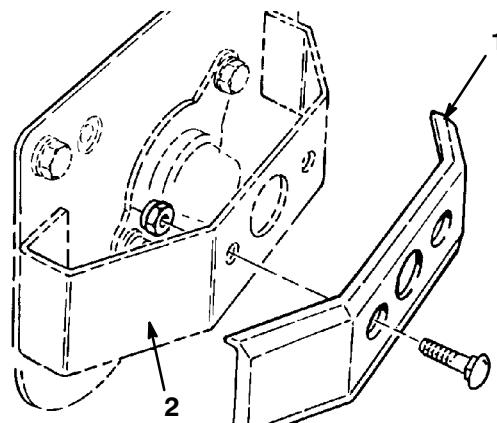

Figure 3
- Mount one weight to each cutting unit guard (Fig. 3) on the #1, #2 and #3 cuttings. Weights are located at the opposite end of each cutting unit drive housing. Use 1/2 in. carriage bolts provided with weights (Fig. 3).